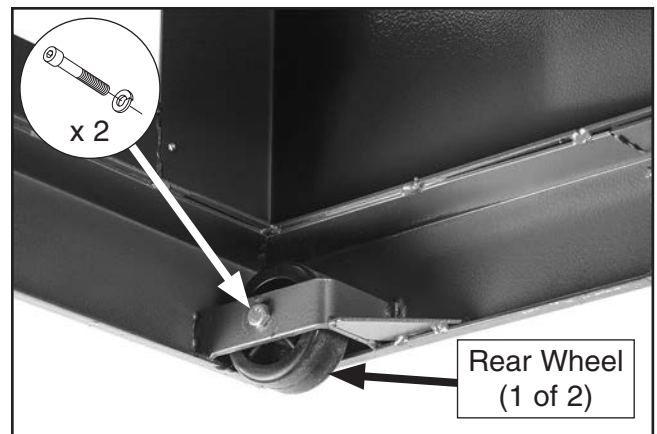

Figure 13. Rear wheels installed with machine elevated by forklift.
2. While machine is elevated, install rear wheels using (2) M8-1.25 X 60 cap screws and (2) 8mm lock washers (see **Figure 13**).